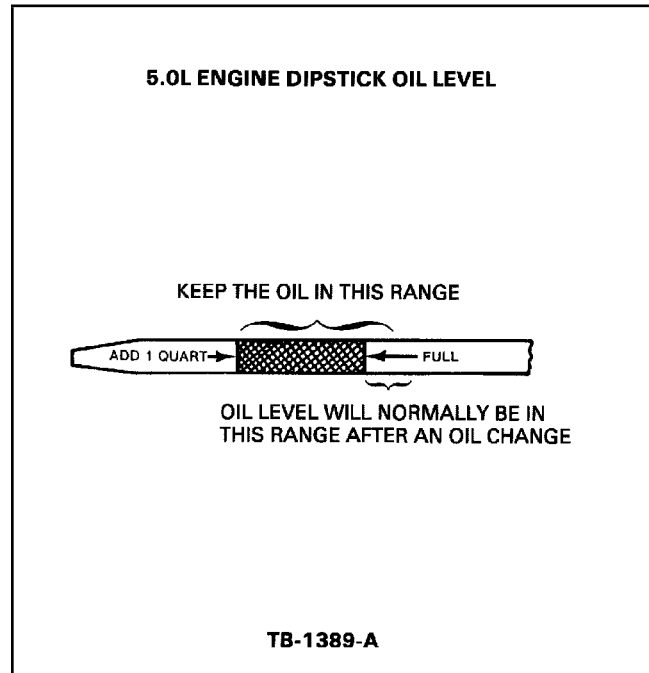

Figure 1 - Article 90-1-9
5. Run the engine for two (2) minutes then turn the engine off.
6. Let the oil drain back into the oil pan for at least three (3) minutes before going to Step 7.
8. See where the oil level is on the graphic, stamped on the dip stick, Figure 1. The oil level should be between the top of the cross hatch area and the "F" in "FULL".